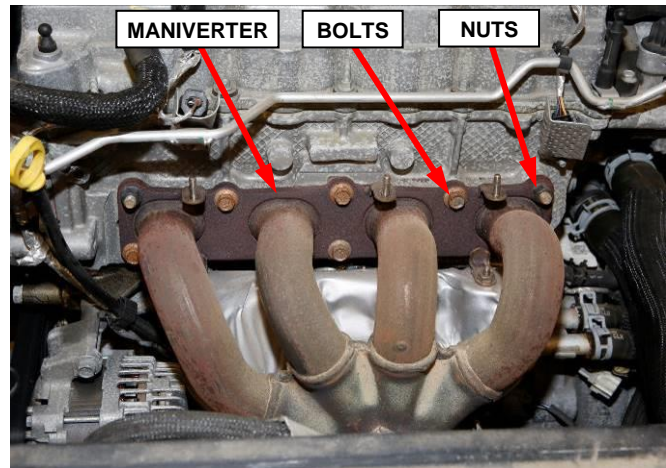

Figure 17 – Maniverter to Engine
25. Remove the fasteners, six bolts and two nuts, securing the maniverter to the engine cylinder head (Figure 17).